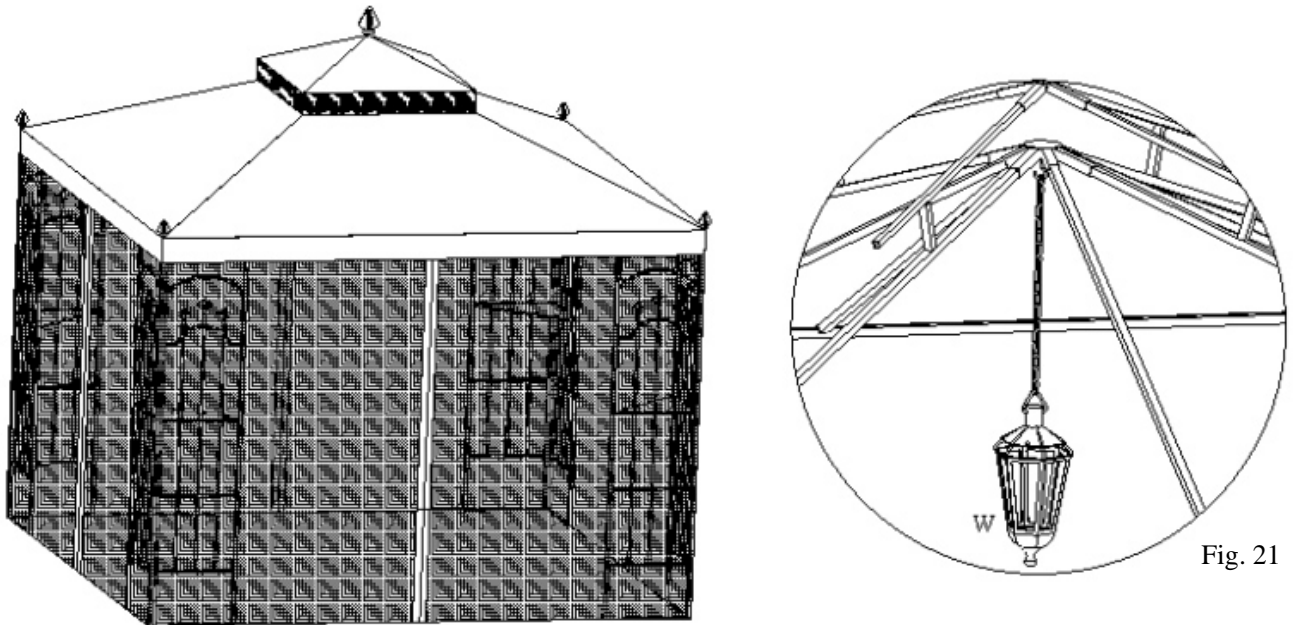

Fig. 21
Step 12: Hanging on the lantern(w) to the hook under part “H” by the “S” shape hook on the chain. See the Fig 21